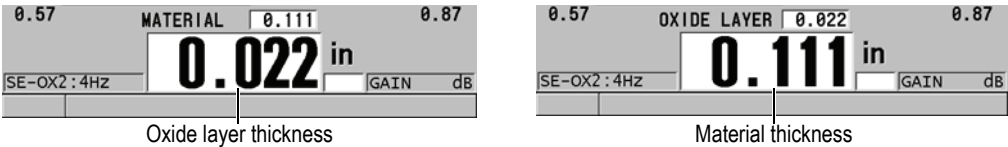

Figure 7-3 Selecting which measurement appears with the larger font
- c) In **LARGE FONT**, select which measurement appears in the larger font in the measurement screen (see Figure 7-3 on page 92).